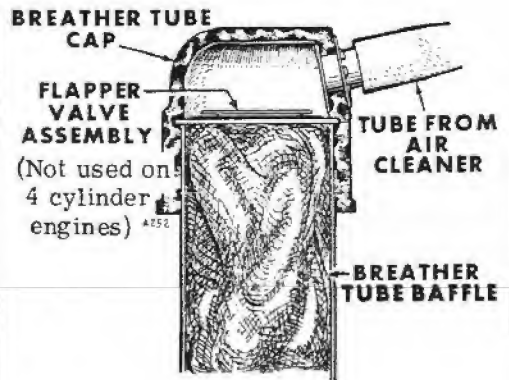

Fig. 18 Breather Valve
- H. - **BREATHER VALVE.** Lift off rubber breather cap, figure 18. Carefully pry valve from cap. Otherwise press hard with both of your thumbs on top of cap and fingers below to release valve from rubber cap. Wash this fabric flapper type check valve in fuel. Dry and reinstall positioning perforated disc toward engine.